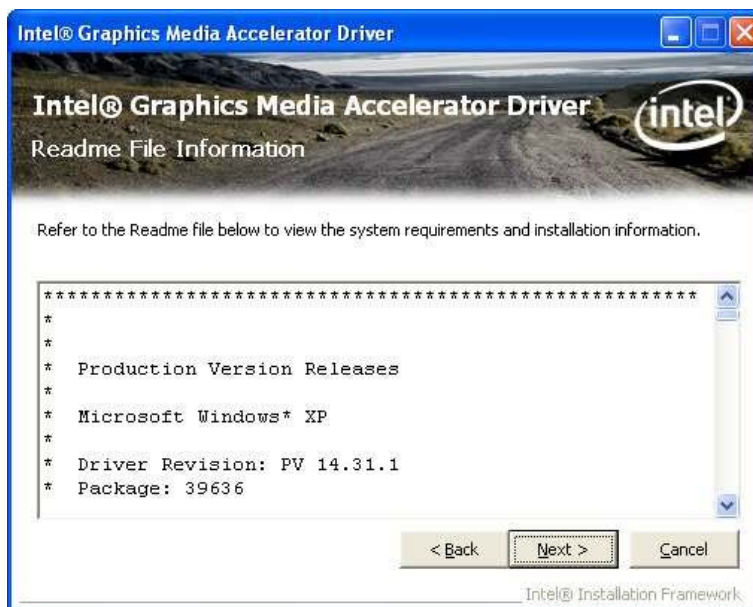

Figure 7-12: Intel® Graphics Media Accelerator Driver Readme
Step 8: Read the license agreement. To accept the terms and conditions stipulated in the license agreement shown, click **YES** and the Readme File appears (Figure 7-12).